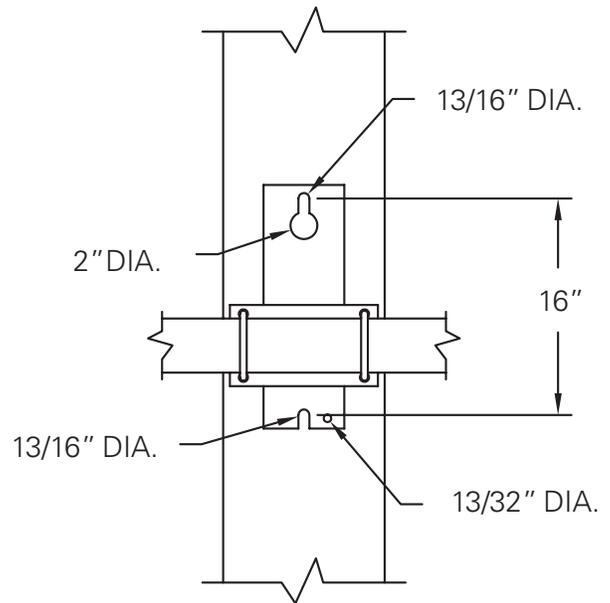

Figure 8. Pole bracket detail
2. Mount the unitized switch to the pole using 3/4" bolts at the desired location. Refer to Figure 8 for pole bracket detail. Remove the lifting straps.